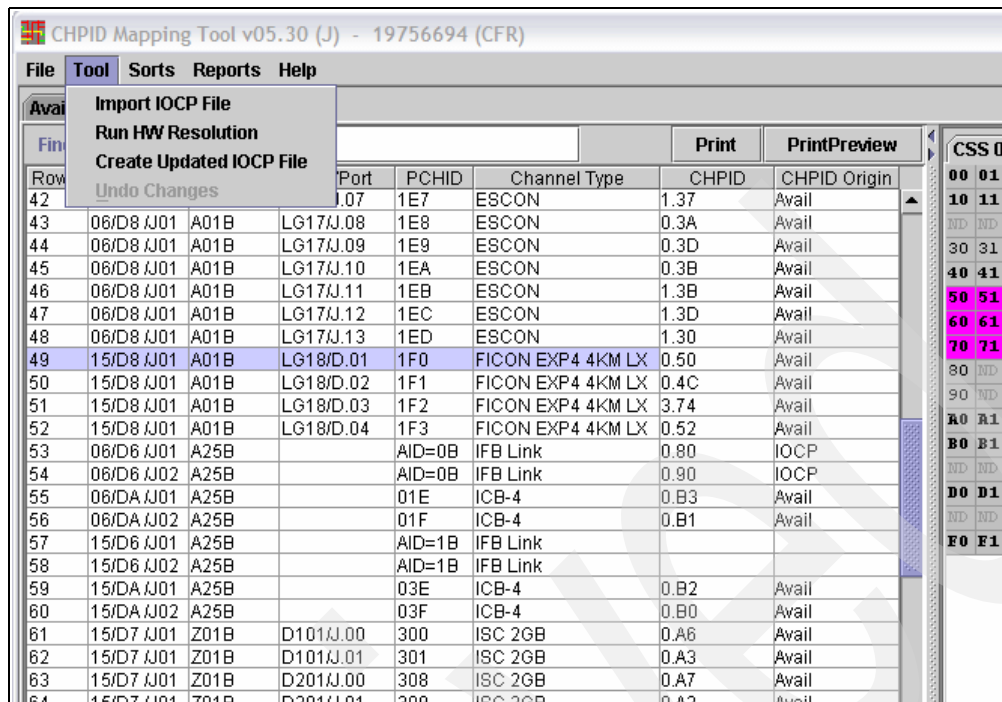

Figure 5-47 CMT - Create Updated IOCP File
1. Click **Tool** → **Create Updated IOCP File** (see Figure 5-47 on page 244).